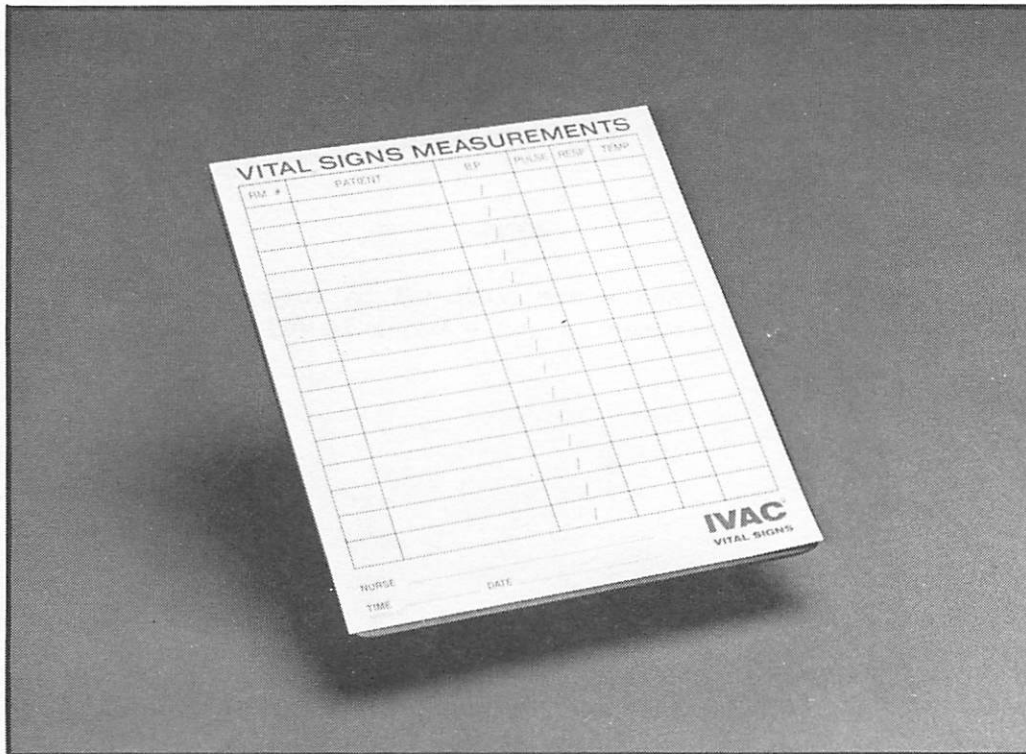

Figure 1-12. Writing Table with Note Pads
- r. Writing Table - Model 4015 (figure 1-12). A metal table which attaches to the monitor's handle.
- s. Writing Table Note Pads, P/N 127335 (figure 1-12), for use with the writing table.